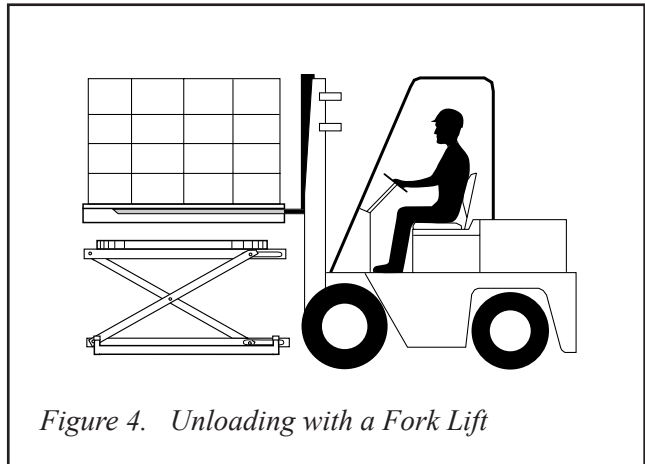

Figure 4. Unloading with a Fork Lift
- Insert the forks into the pallet, and lift the pallet clear of the top of the unit. See Figure 4.